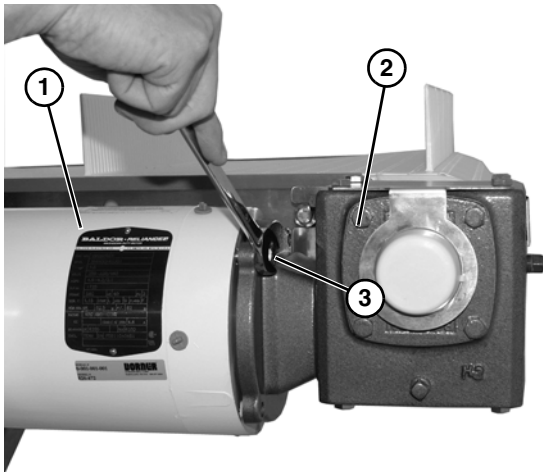

**Figure 18**
- Slide motor (**Figure 18, item 1**) off of gear reducer (**Figure 18, item 2**), and remove shaft key (**Figure 18, item 3**) from motor shaft (**Figure 18, item 4**).
- With key (**Figure 18, item 3**) in keyway on motor shaft (**Figure 18, item 4**), slide new motor (**Figure 18, item 1**) and gear reducer (**Figure 18, item 2**) together.